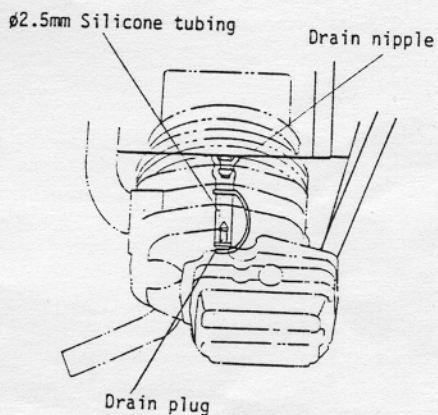

Fig. 18
- At the conclusion of the flying session, drain out the excess oil in the crankcase by removing the drain plug. While running the engine, the drain plug must be fitted. (See Photo 4 and Fig. 18).